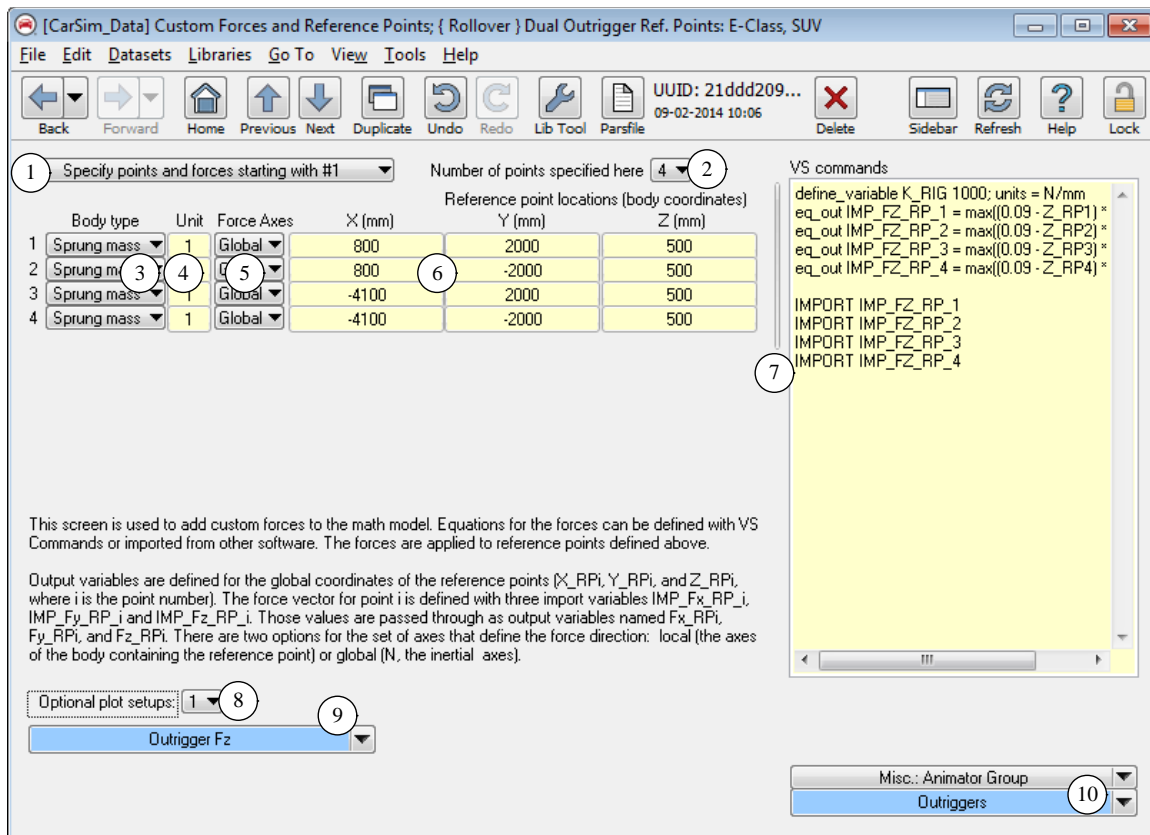

Figure 1. Custom Forces and Reference Points screen.
The VS Solver initially has zero custom forces and reference points. The easiest way to add custom forces is with the **Custom Forces and Reference Points** screen (Figure 1), which has settings to add up to 18 custom forces to the vehicle math model. Each force is applied to a reference point, defined by specifying the body in which it is located (3) and coordinates (6) in the coordinate system of the specified body (4).
When this screen is used (Figure 1), the command `DEFINE_REFERENCE_POINTS` is automatically used as needed to define new points. The VS Math model supports up to 99 custom forces with associated reference points; multiple datasets from the library can be used if needed, adding up to 18 reference points per dataset.
When choosing the numbering option for the reference points via the drop-down control ① (Figure 1, page 3), both of the first two options are valid for either the first encounter (when the reference points are added to the model) or for later links where the points already exist. The third option will always add new points and therefore should never be used when the intent is to change properties of existing points.